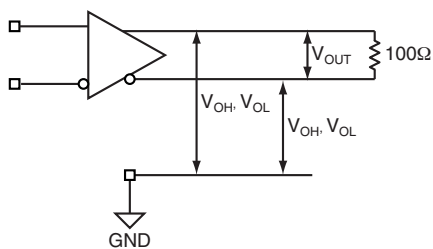

Figure 1a. LVDS Differential Measurement
**Note 3.** Measured as per Figure 1a, 100Ω across Q and /Q outputs.